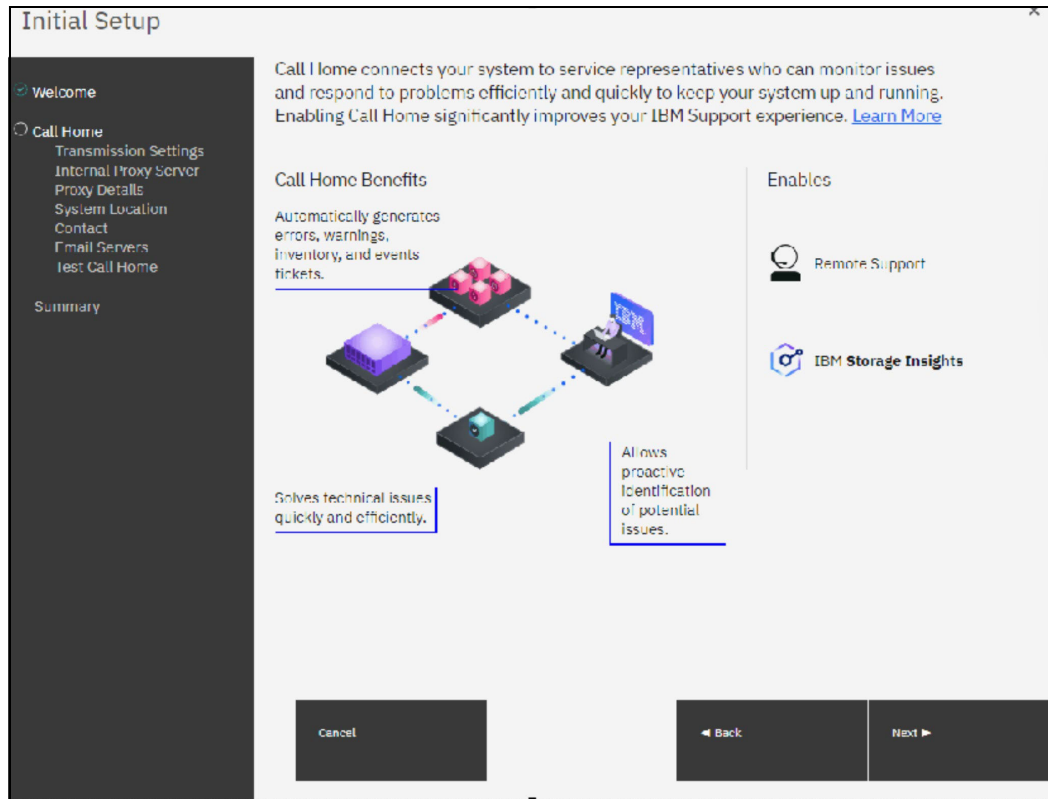

Figure 2-18 Setup Call Home
3. The next step in the initial setup is the setup of Call Home. See Figure 2-18 on page 29. Call Home provides multiple benefits. It enables automatically creating tickets at IBM if errors occur, which improves the speed and efficiency by which calls are handled. Call Home also enables Storage Insights and Remote Support.